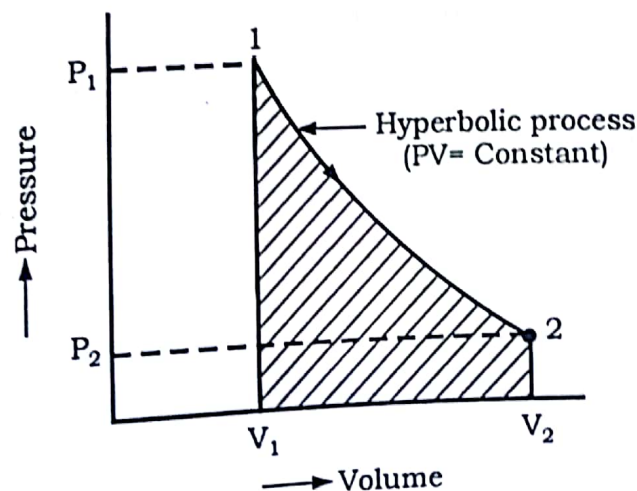

Fig. 3.4 : Hyperbolic Process
3. Hyperbolic Process: The process in which gas is heated or expanded in such a way that the product of its pressure and volume remains constant, is known as hyperbolic process. A hyperbolic process is shown in figure 3.4.